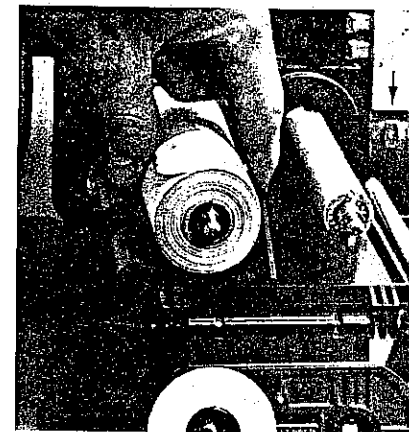
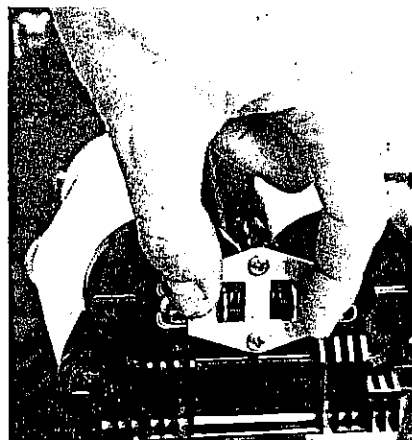

Figure 27
Figure 26
5. To remove the full take-up roll and the empty supply spool, press the two metal tabs together on the top of the platen assembly, and pull out and down on the paper retainer. (See Figure 26.) The full take-up roll can now be easily removed from the paper core shafts. (See Figure 27.)